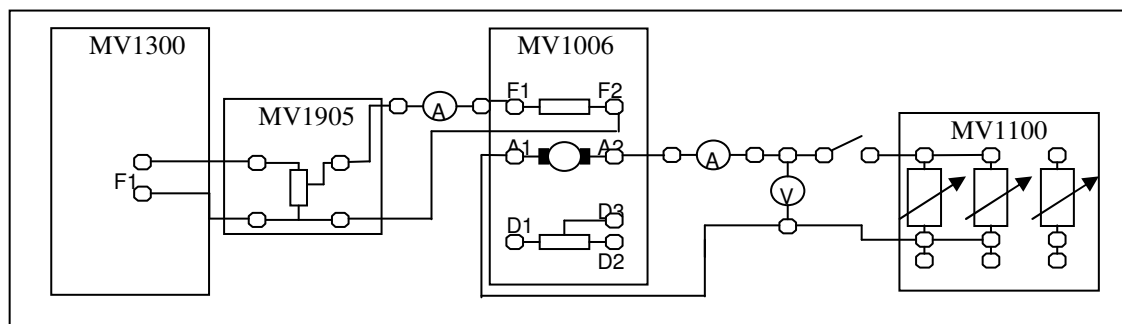

Figure 3 Circuit Diagram for DC Generator
3. Connect the DC generator as separately excited as shown in **Figure 3**.